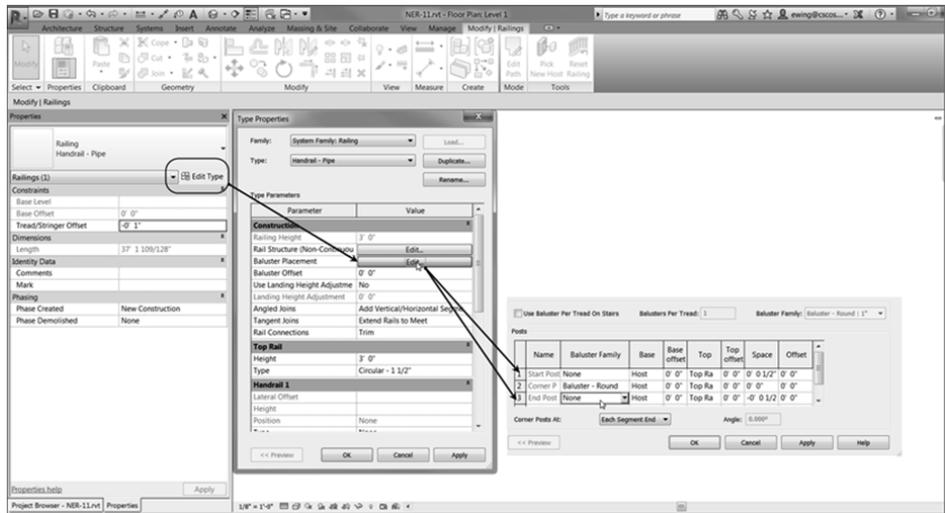

FIGURE 10.23 Configuring the default settings for the railing type Handrail – Pipe – Horizontal Railing
8. Select None for the Start and End posts under the Posts category, as shown in Figure 10.23.